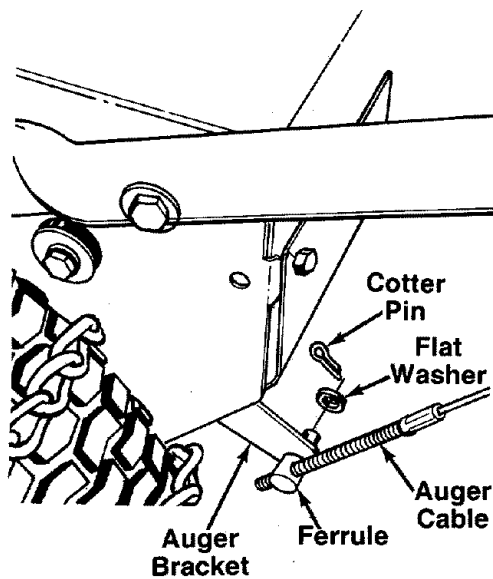

FIGURE 15.
← See figure 15.
3. Insert the ferrule into the auger bracket as shown in figure 15. Secure with $\frac{5}{16}$ " flat washer and cotter pin, bending the ends of the cotter pin in opposite directions.